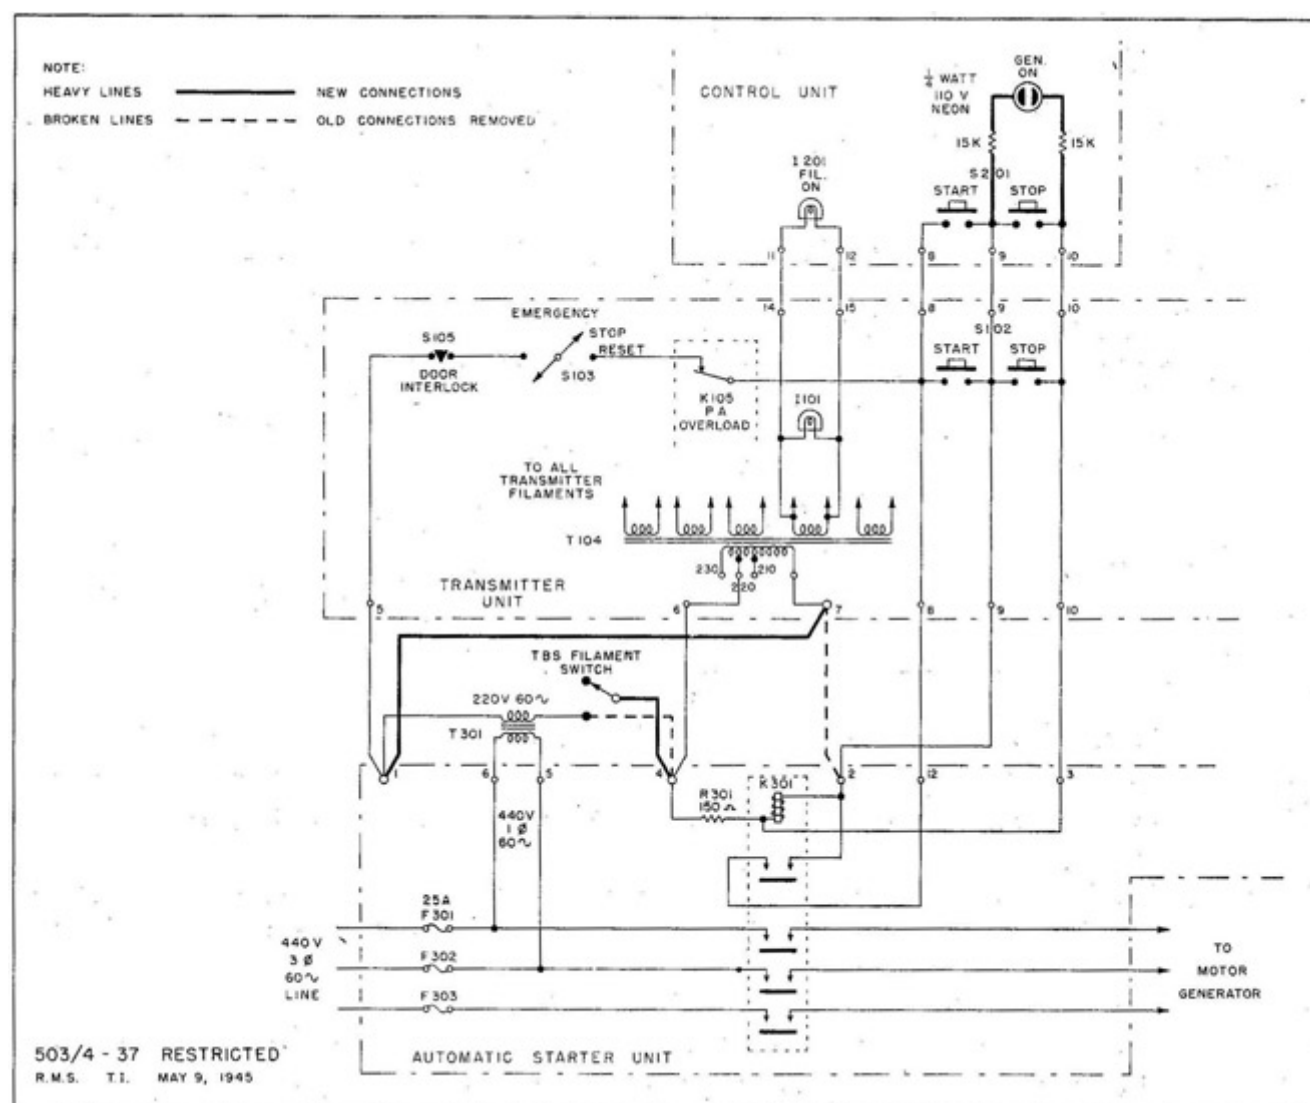

Fig. 37 TBS-6 Transmitter (AC Model) Modification to Filament Circuit.
- Remove old connections shown in broken lines in Fig. 37.
- Make new connections shown in heavy solid lines in Fig. 37.